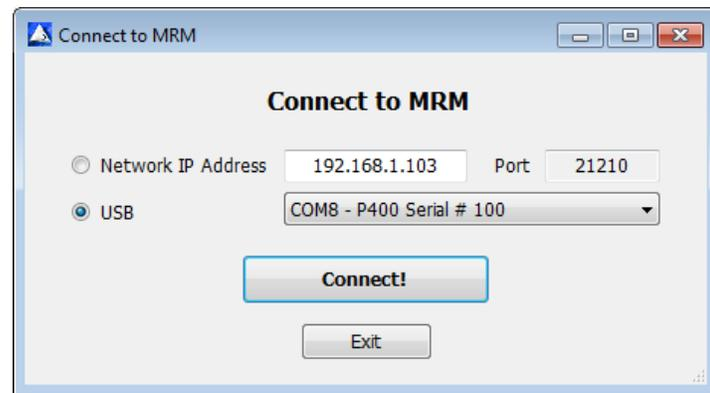

Fig. 8: MRM RET connect screen after USB connection
2. Connect the USB cable to both the P440 and the Host computer. A system message should appear indicating that the system has identified a new connection and the correct driver is being connected. This identification process could take as long as two minutes. Once the process is complete, subsequent connects will take only a few seconds. At this point, MRM RET will set the USB button and indicate which COM port is connected to the P440. This is illustrated below in **Figure 8**.